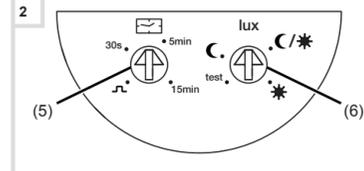

Figure 2: Adjustment elements
- Setting the test mode. To do this, set the response brightness potentiometer (Figure 2, 6) to the test position.
- Turn the delay time potentiometer (Figure 2, 5) to the desired position.